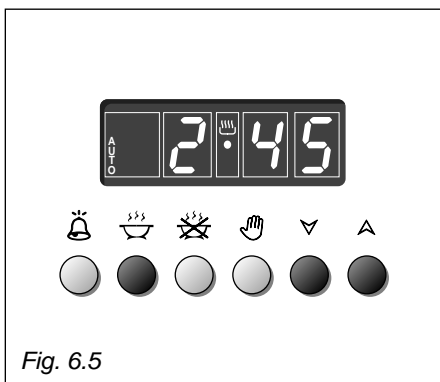

Fig. 6.5
1. Set the length of the cooking time by pushing the  button and the  button to advance, or  to go back if you have passed the desired time (fig. 6.5). The **AUTO** and the  symbol will be on.